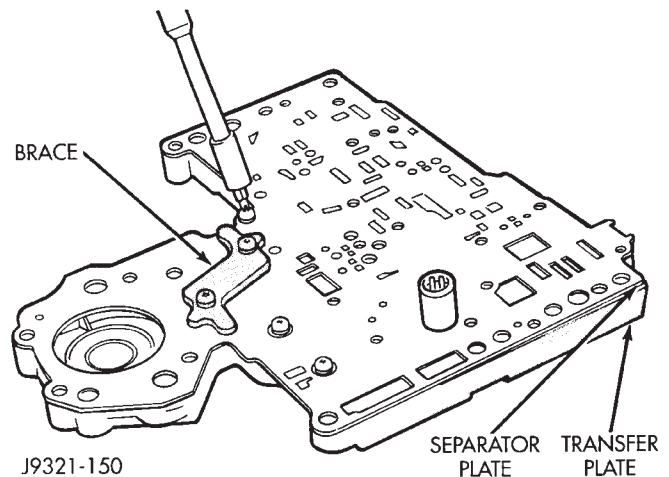

Fig. 108 Brace Plate Removal—46RH
(22) Turn transfer plate over so upper housing separator plate is facing upward (Fig. 108).
(23) Remove brace plate from lower housing separator plate and transfer plate (Fig. 108).
(4) Install brace plate (Fig. 108). Tighten brace attaching screws to 4 N•m (35 in. lbs.) torque.
(5) Install remaining separator plate attaching screws. Tighten screws to 4 N•m (35 in. lbs.) torque.